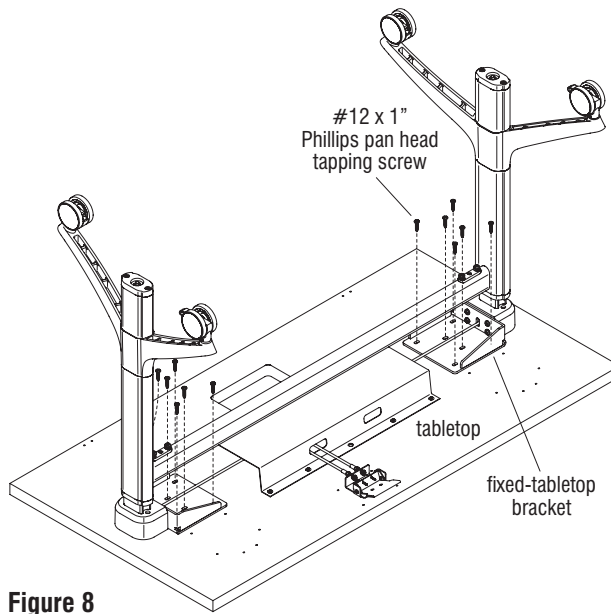

Figure 8
23. Carefully lift and rotate the pneumatic-adjustable fixed leg assembly so it is upside down in mounting position, on the tabletop as illustrated. Align each fixed-tabletop bracket's mounting holes with the tabletop mounting holes and secure using six #12 x 1" Phillips pan head tapping screws per plate (Figure 8).